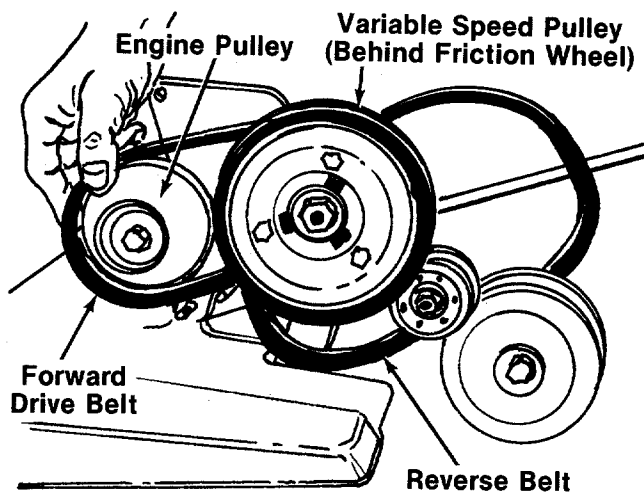

FIGURE 20.
2. Push the shift lever forward and lift off belt from variable speed pulley and engine pulley. See figure 20.